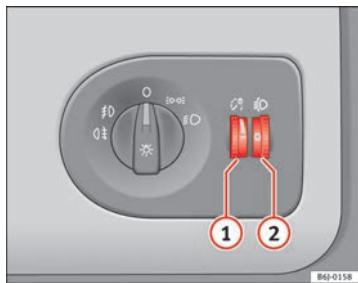

Fig. 56 Dash panel: regulation for instrument and switch illumination and headlight range control
When the headlights are switched on, the brightness of the instruments and switch lighting can be regulated to suit your requirements by turning the thumb wheel → fig. 56 ①.